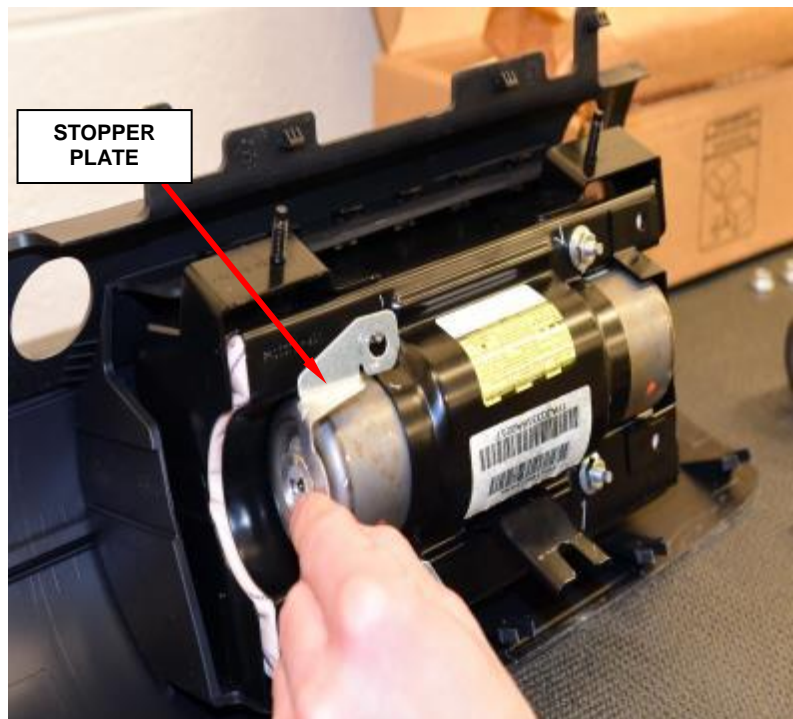

Figure 100 – Stopper Plate
c. Remove and save the stopper plate from the passenger airbag module (Figure 100).